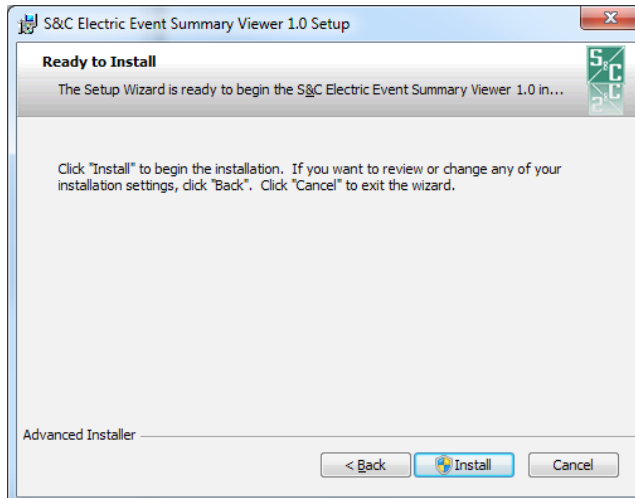

Figure 3. The Ready to Install dialog box.
STEP 4. Click on the **Install** button to begin the installation. If necessary, enter an Admin username and password to continue. See Figure 3.